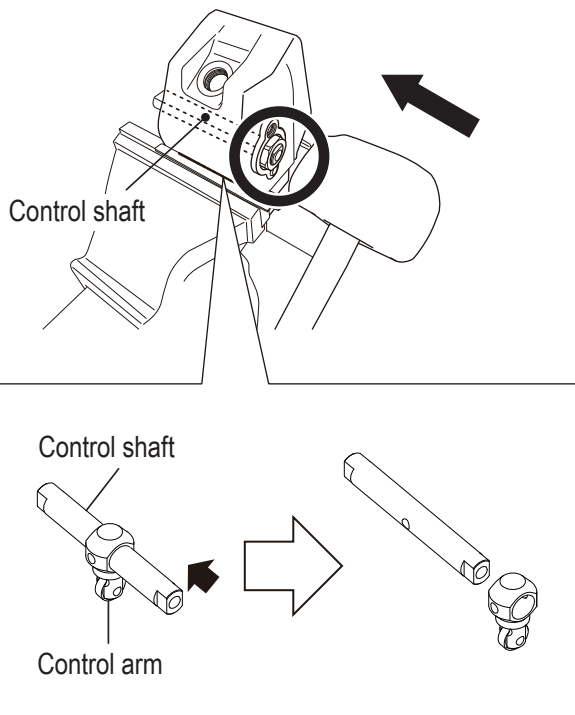

Fig.26
- e. Remove the control shaft with a plastic hammer and remove the control arm. (Fig.26)